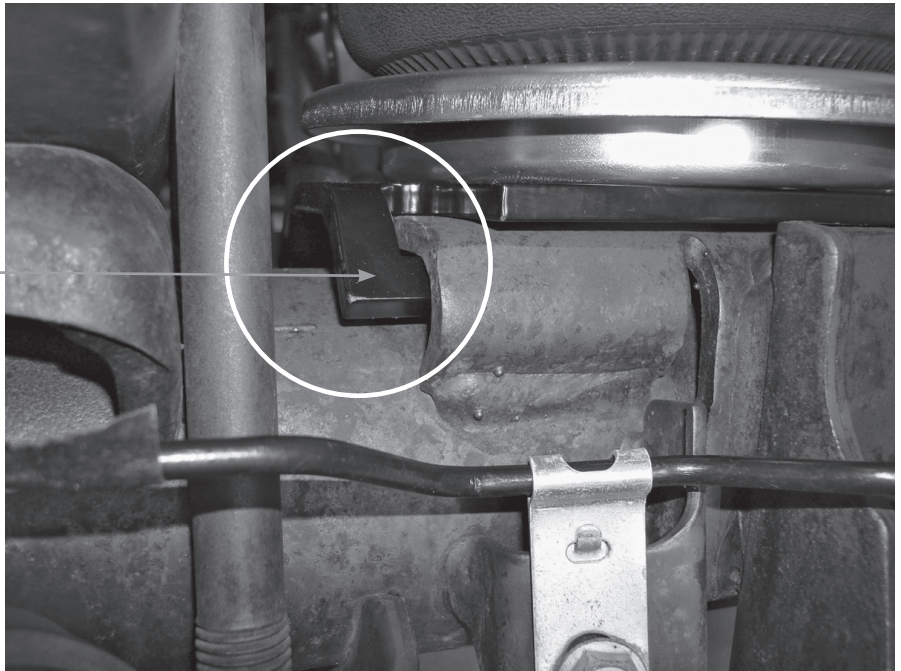

fig. 5
- Set the driver side assembly in place over the axle. The “tabs” that are on the outside of the lower bracket will index under the jounce bumper strike plate (Fig. 5).